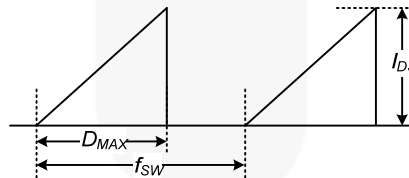

Figure 4. Repetitive Peak Switching Current
6. Repetitive peak switching current when the inductive load is assumed: Limited by maximum duty ($D_{MAX}=0.74$) and junction temperature (see Figure 4).